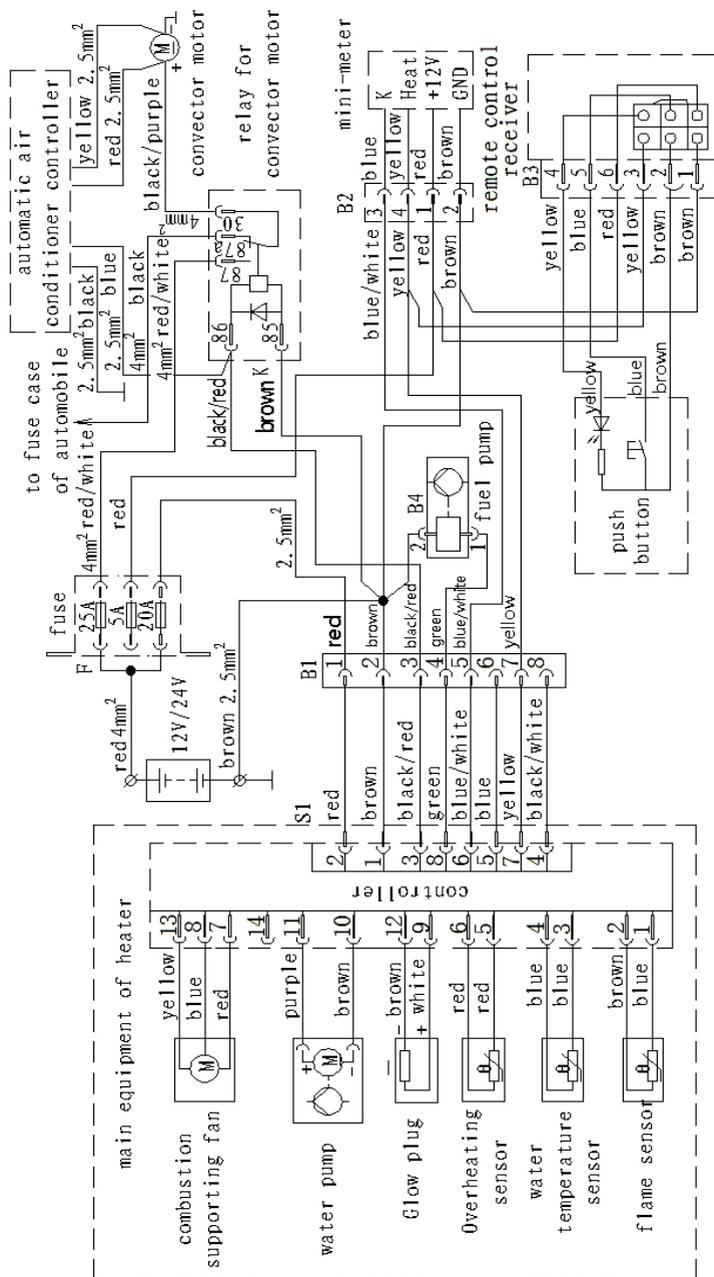
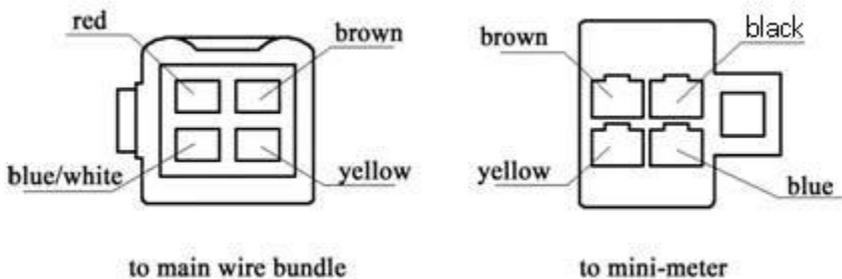

Fig.11
Fig. 12
The wiring diagram for the heater is shown in Fig. 11.
4.6.5 For those components whose connecting wires may need to go through small holes (such as mini-meter and remote control receiver), you need to pass the wires through the holes before the connection is made to the connector. For such reason, the terminals of these components are not plugged in the sockets in the factory. You have to plug in the terminals according to Fig. 11. You have to keep correct relations for them. Connector for the remote control receiver: Plug connection shall be made according to wire color and serial number of terminals on the sockets. Connector for the mini-meter: Plug connection shall be made according to Fig. 12.